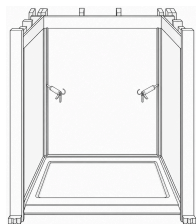

Fig. 35: Caulk the inside seams
7.  **Caulk the inside seams.** Apply a bead of 100% clear or T200 color-matched silicone sealant to all inside seams (Fig. 35).